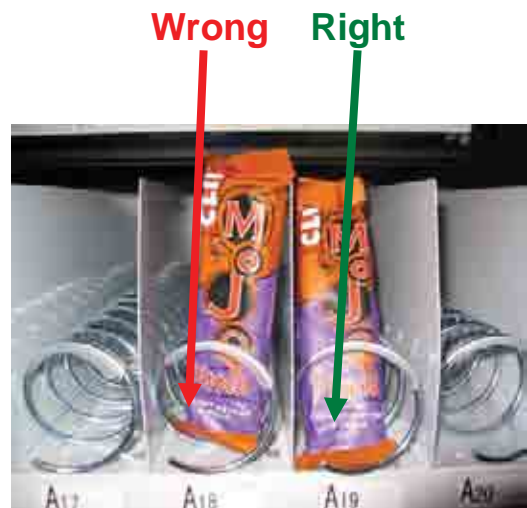

Figure 20 – Proper way to load product
- f. NOTE: bottom left corner of product must be loaded in front of the coil to vend properly. (*Figure 20*).